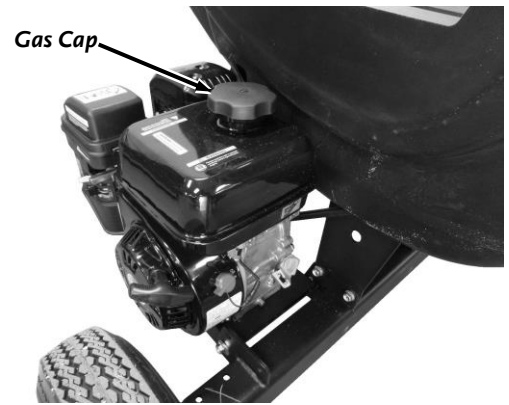

Figure 9
6. Remove the Gas Fill Cap and fill the Gas Tank with fresh, unleaded gas (with a minimum of 85 Octane) to approximately 1" to 1-1/2" below the top of the fill neck to allow for fuel expansion (**Figure 9**). Be careful not to overfill. Install the Gas Fill Cap before starting the engine. See your Engine Owner's Manual for more detailed information.